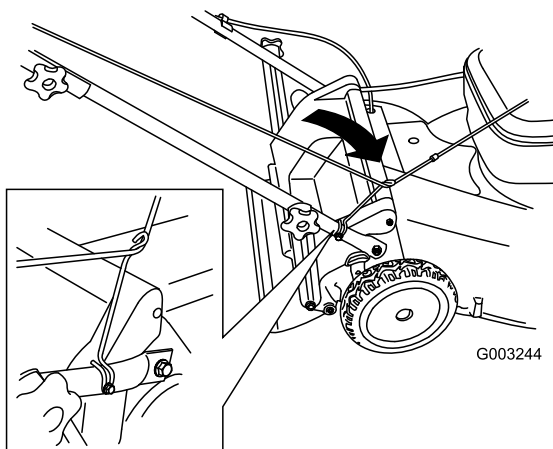

Figure 25
3. Route the starter rope around the lower rope guide (Figure 25).